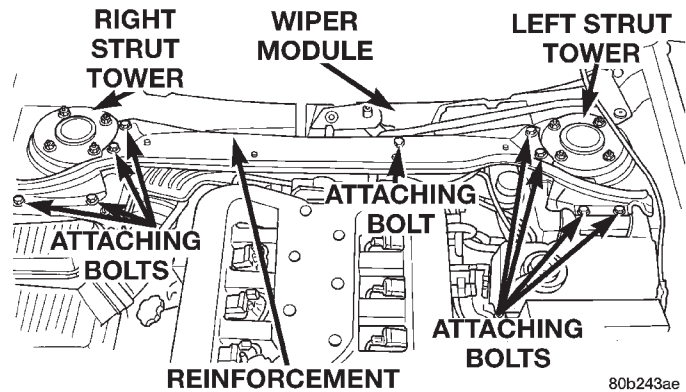

Fig. 19 Reinforcement Attachment To Vehicle
(7) Remove the 8 bolts, attaching the reinforcement (Fig. 19) to the strut towers and the 1 bolt
(Fig. 19) attaching the wiper module to the reinforcement. Remove the reinforcement from the vehicle.
(17) Install the reinforcement (Fig. 19) on the vehicle. Install the 8 bolts, attaching the reinforcement (Fig. 19) to the strut towers. Install the bolt (Fig. 19) attaching the wiper module to the reinforcement.